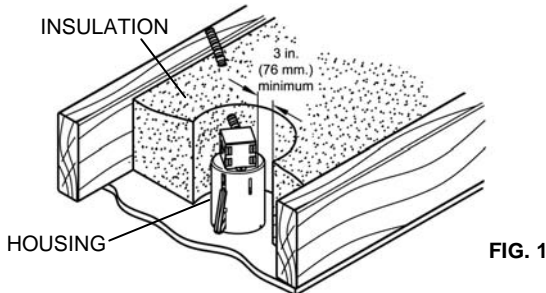

FIG. 1
NOTE: This fixture is a Non-IC type housing. Do not install insulation within 3 in (76 mm) of the housing. (Fig. 1) In addition, the housing must be installed at least 1/2" away from any combustible material, such as a wood joist or floorboard. The ceiling surface is exempt from this requirement and may be in contact with the bottom part of the housing.
- Clear out any insulation necessary to maintain the 3" spacing specified in the "WARNING" section found in the beginning of these instructions. (See Fig. 1)
- Run armored cable (BX) or non-metallic (NM) cable (also known as Romex) from your circuit breaker or fuse panel to the 3 1/4" hole, providing 6" to 8" of slack extending below the hole. Cable having up to 12 AWG wiring may be used. (**WARNING - Use cables having wires rated 90°C or more.**)